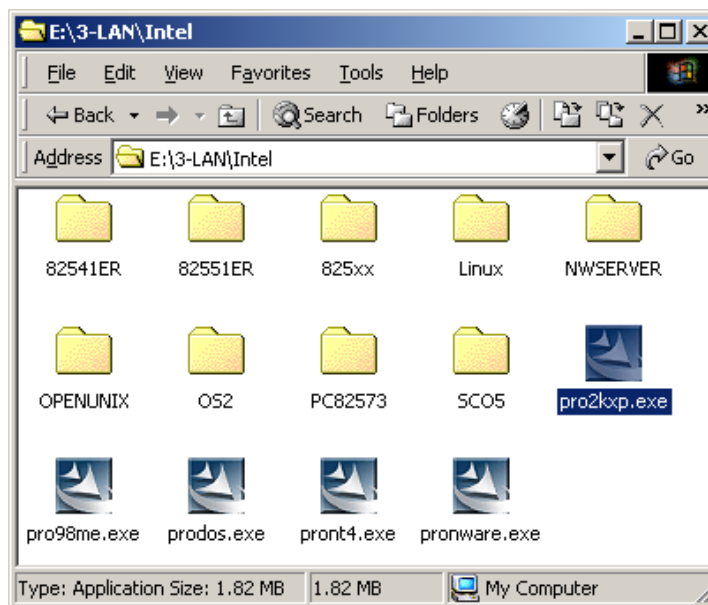

Figure 7-19: Select the Driver
Step 4: A new window appears (Figure 7-19).